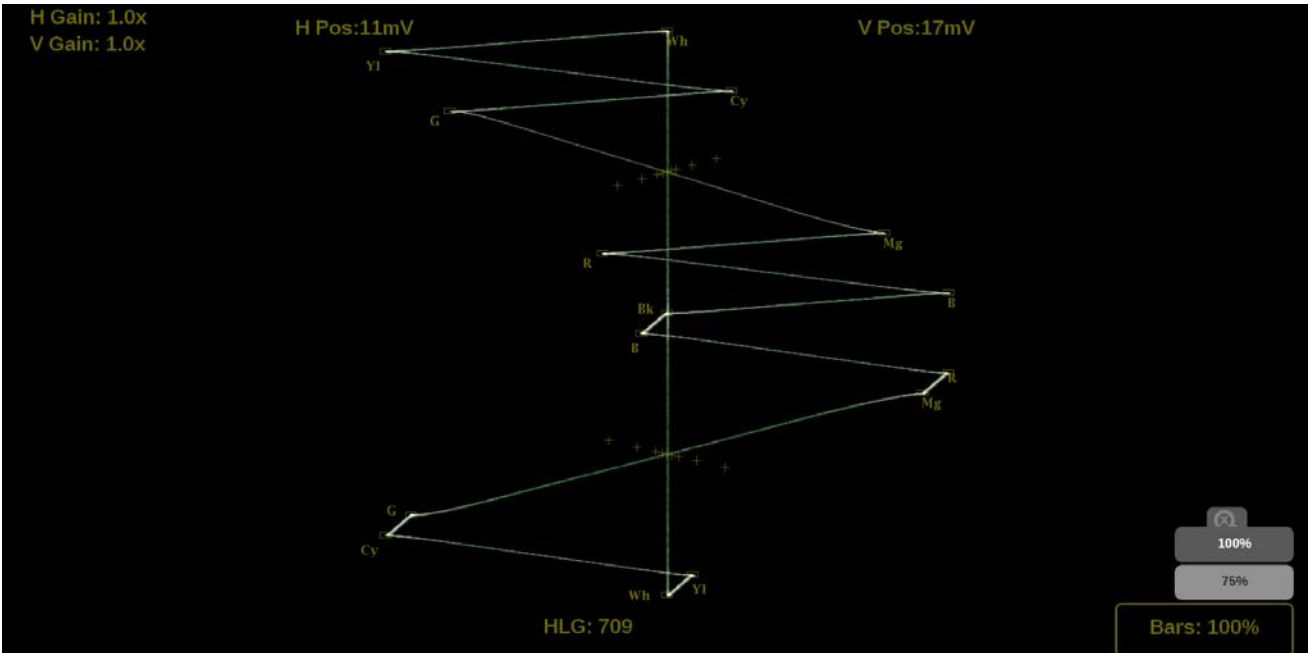

Figure 220: Lightning on-screen tools – Bar Targets
1. Select the **Bars** button in the bottom right corner of the application to expand the available options. (See Figure 220.)